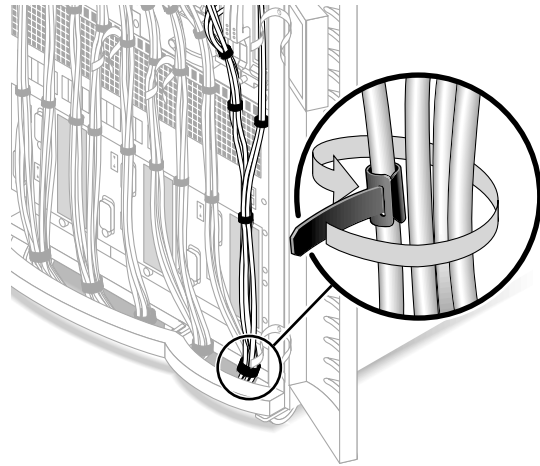

FIGURE 7 SC0 and Slot SB0 Cables—Front
8. At the base of the system, combine two side-by-side bundle sets and secure a 10.0 in. (25.4 cm) black cable strap (No. 5) to one of the cables in the set, using the strap insert (FIGURE 7).